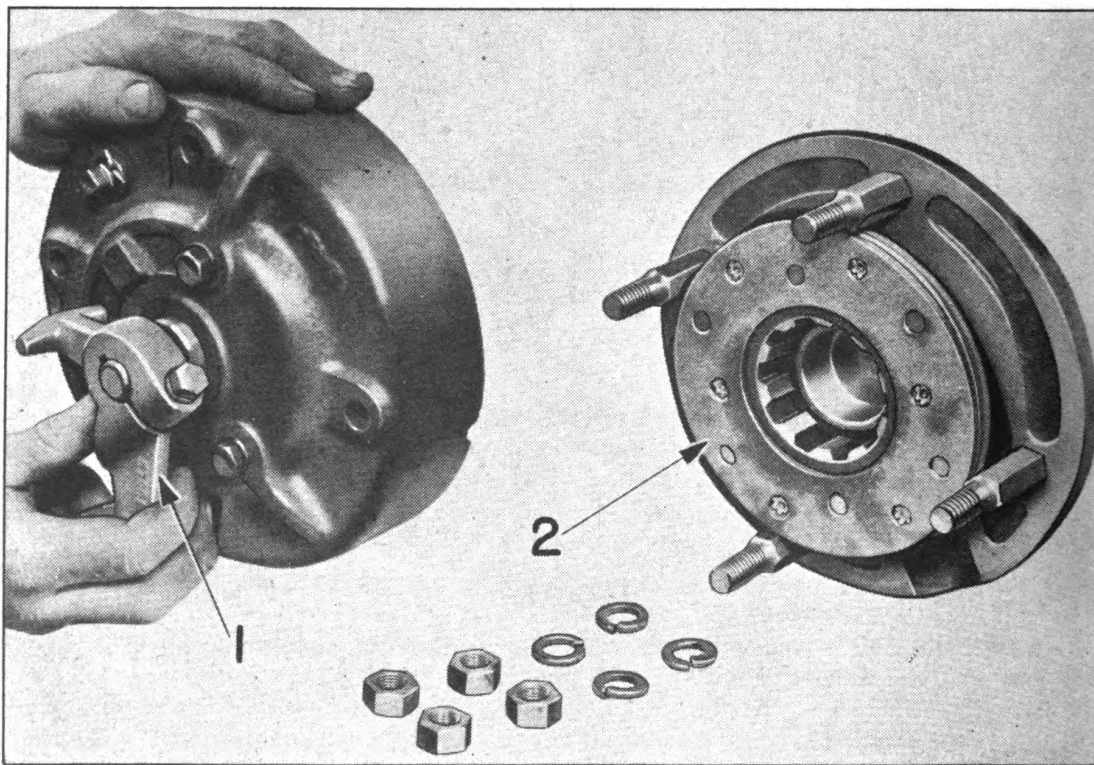

Fig. 87. Removing Brake to Replace Middle Ring
2. On the outside of the brake housing are three cap screws (1), Fig. 87. Loosen each of these screws several turns.
3. Turn the adjusting pinion (2) clockwise, thereby screwing adjusting ring (3) outward on its threads, and forcing the power plate (4) inward. This action forces the primary disc (5) inward, and decreases clearance at the brake lining (6). Continue to rotate the adjusting pinion (2) until the brake pedal can be depressed by hand about  $1\frac{1}{2}$ " to 2". This should leave adequate clearance to assure that the brake will not drag when released.
4. When proper adjustment is secured, depress brake pedal and lock it. Then tighten the three cap screws (1) to lock the internal brake parts in place. It is not necessary to lock adjusting pinion (2) as the adjusting ring with